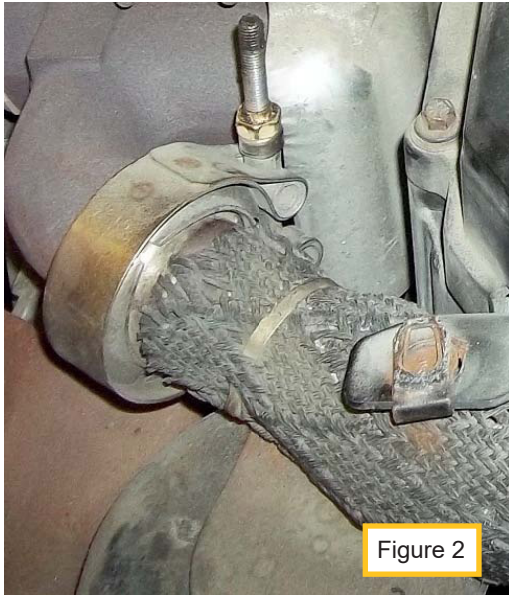

Figure 2
4. Loosen clamp on EGR cooler outlet pipe and fully loosen and remove clamp at inlet to EGR valve, remove gasket and set aside and rotate EGR outlet cooler pipe downward (see figure 2 and 3).